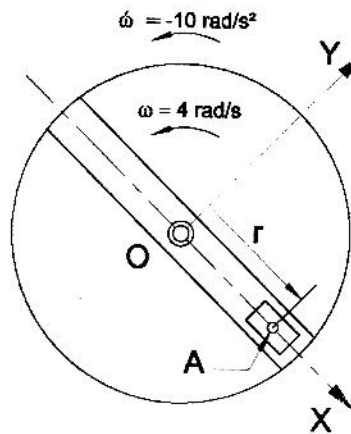

Figure 4
4. a) At the instant represented (figure 4) the disc with the radial slot is rotating about 'O' with CCW angular velocity of 4 rad/s, which is decreasing at a rate of 10 rad/s2. The motion of the slider 'A' is separately controlled and at this instant  $r = 150$  mm,  $\dot{r} = 125$  mm/s,  $\ddot{r} = 2025$  mm/s2. Determine the absolute velocity and acceleration of 'A' for this instant. Draw velocity and acceleration polygon (not to the scale).